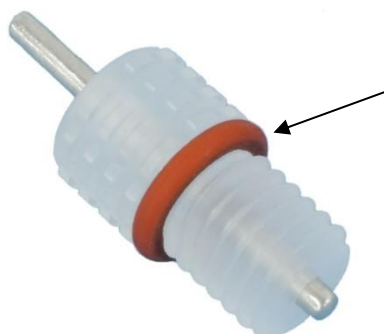

Figure 17. μ -PrepCell 2.0 HyREF (Pd/H₂) reference electrode with Silicone O-ring (black arrow).
9. The μ -PrepCell 2.0 is equipped with a Pd/H₂ reference electrode (HyREF, see Figure 17), make sure that the orange silicone O-ring is mounted onto the PTCFE body as depicted by the arrow in Figure 17. The Silicone O-ring assures that no leakage can occur during operation.